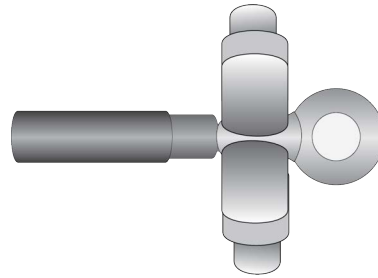

Figure 43. Crimping the Ring Terminal Lug
- Crimp the ring terminal lug with a wire crimping tool to secure it on the grounding wire. Refer to Figure 43.